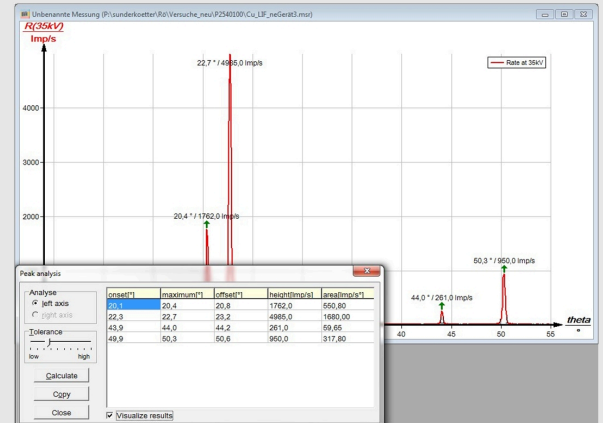

Fig. 10: Automatic peak analysis with "measure"
- The window "Peak analysis" appears (see Fig. 10). Then, click "Calculate".